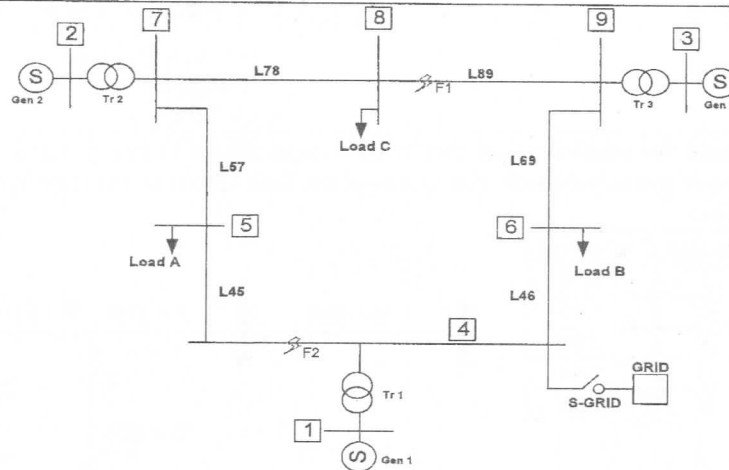

Fig. 2
- 2- If another identical area is connected to area (1) via a transmission line. Calculate the steady-state system frequency and the power interchange between the two areas if the static load connected to area (1) is increased by 60 MW. Notice that each generating unit was delivering 100 MW before the disturbance occurred. Also, there was no power flow between the areas ( $\Delta P_{120} = 0$ ).
**Problem number (1) (25 Marks)**
- Specify the protective zones for the system shown in Fig. 2. Determine the following: